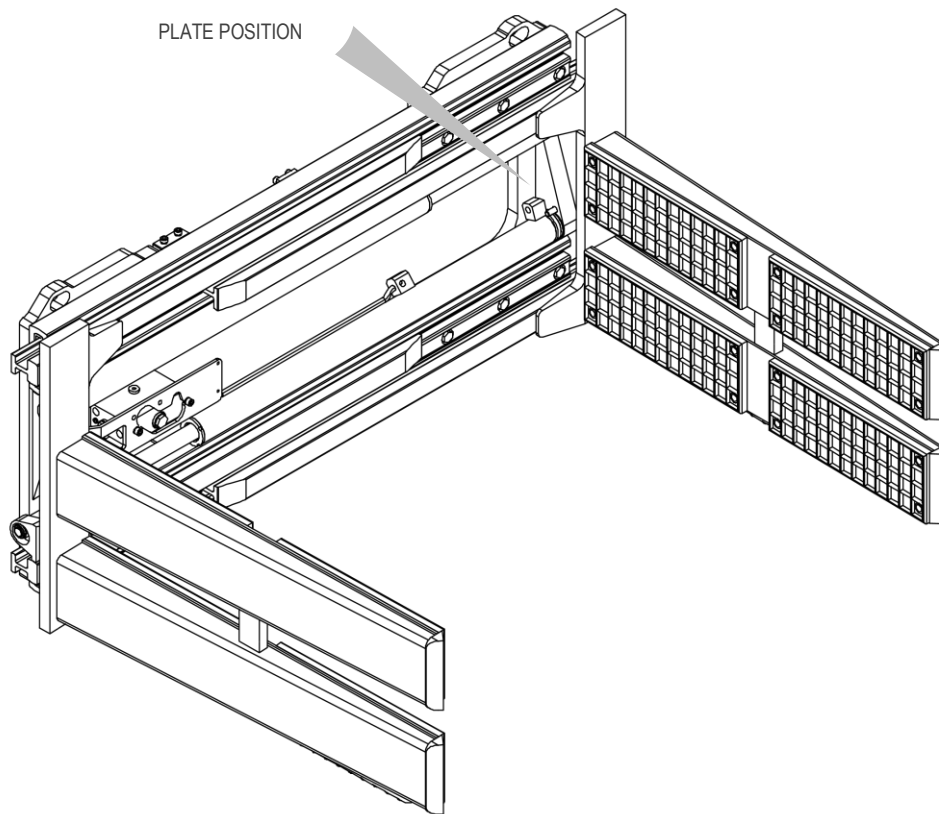

Figure 1
All the A.T.I.B. equipment - “GRIPPER WITH RUBBER JAWS TYPE 474.137 | GRIPPER FOR BLOCKS WITH SELF-BALANCING JAWS TYPE 474.141” are identified by means of an adhesive plate (see *Table 1*) located on the equipment (see *Figure 1*), always refer to the serial number.
5. For handling, use straps or chains that are suitably sized in relation to the weight of the equipment as indicated on the plate (see *Figure 1* and *Table 1* on page 6).
9. Connect the hydraulic circuit, ensuring that the operating pressure of the lines is greater than or equal to that indicated on the rating plate (see *Figure 1* and *Table 1* on page 6).
6. For handling, use straps or chains that are suitably sized in relation to the weight of the equipment as indicated on the plate (see *Figure 1* and *Table 1* on page 6).